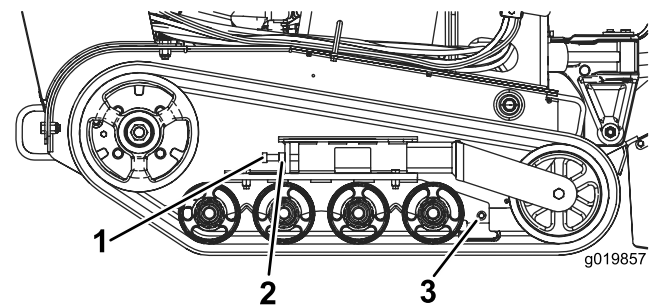

Figure 48
3. Loosen the jam nut on the track tensioning bolt (Figure 48).
4. Torque the tensioning bolt to 24 to 30 ft-lb (32.5 to 40 N-m) to tighten the track (Figure 48).
4. Back out the tensioning bolt and jam nut (Figure 48).